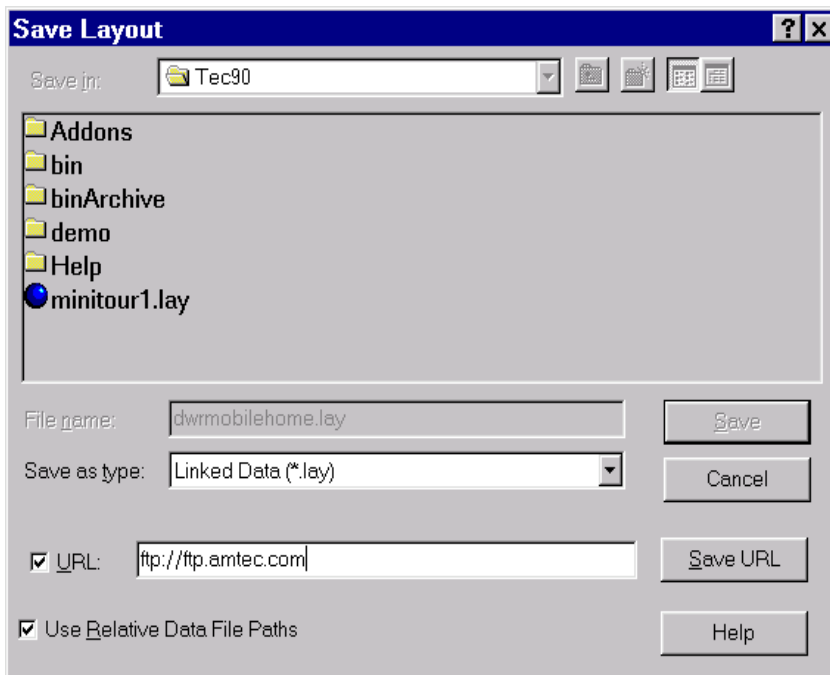

Figure 6-12. The Save Layout dialog in Windows, showing the URL check box.
4. Specify a file name for the layout file. In Windows, you may specify a URL by selecting the URL check box. When selected, you may enter a full URL as the file name, as shown in Figure 6-12. The URL must start with either ftp:// or http://. For example, ftp://ftp.microsoft.com/myplot.plt. Note that the two file types are mutually exclusive. You cannot browse disk files when the URL check box is selected, and you cannot enter a URL if the URL check box is not selected. To open (or save) the URL, click Open URL (or Save URL).